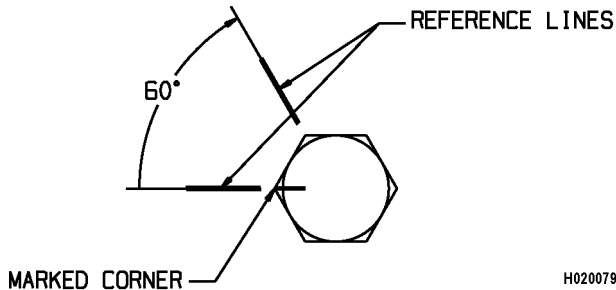

FIGURE 2-7. 60 DEGREE ADVANCE
12. Mark a corner of the cap screw head with a paint marker as shown in Figure 2-7. Draw a reference line on the suspension surface next to the marked corner on the cap screw. Draw a reference line on the suspension 60 degrees in advance of the marked corner on the cap screw.